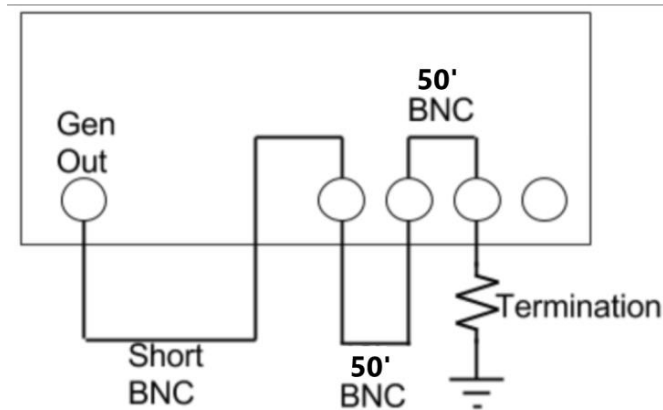

Figure 3
3. Finally, consider an oscilloscope and function generator connected as shown in Figure 3. Assume the termination is a 22 ohm resistor and the generator is driving a sinusoid.